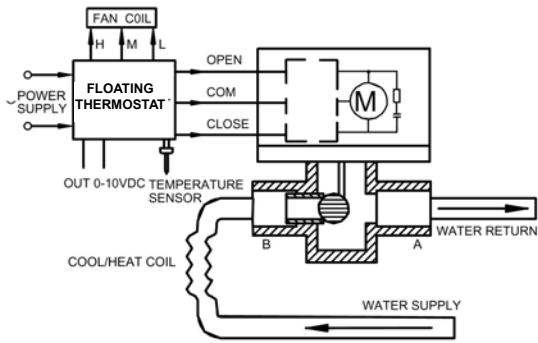

Fig. 2 2-Way Valve
2. 2-way and 3-way valve is installed as Figure 2 and 3. For high building, pressure-reducing valve should be installed on branch pipe at ground floor.